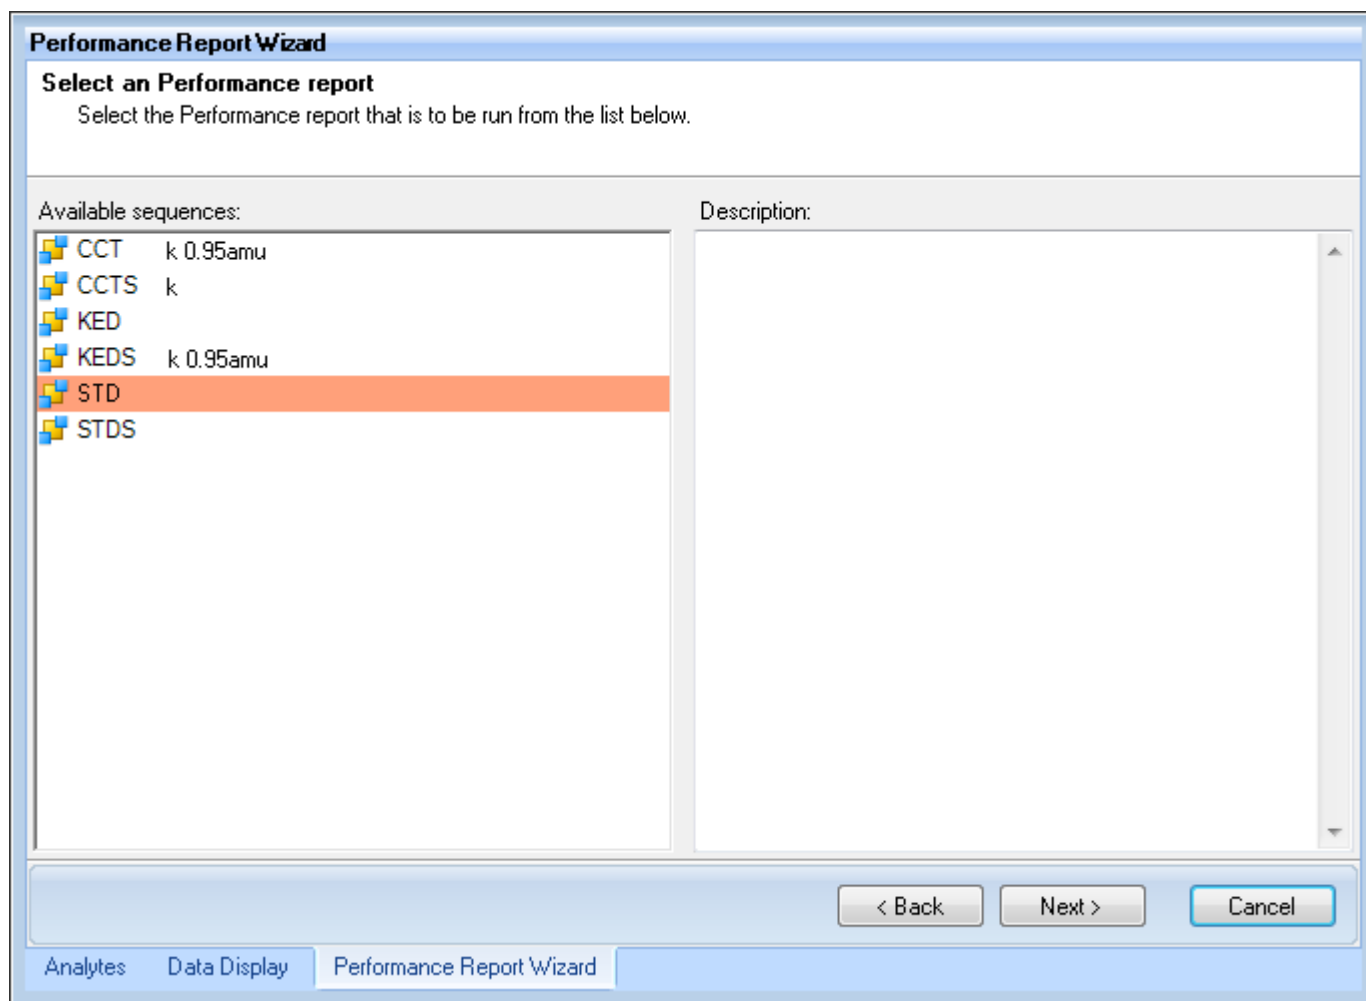

Figure 4-38. Selecting Performance Report
6. Select a **Performance Report**, see Figure 4-38.